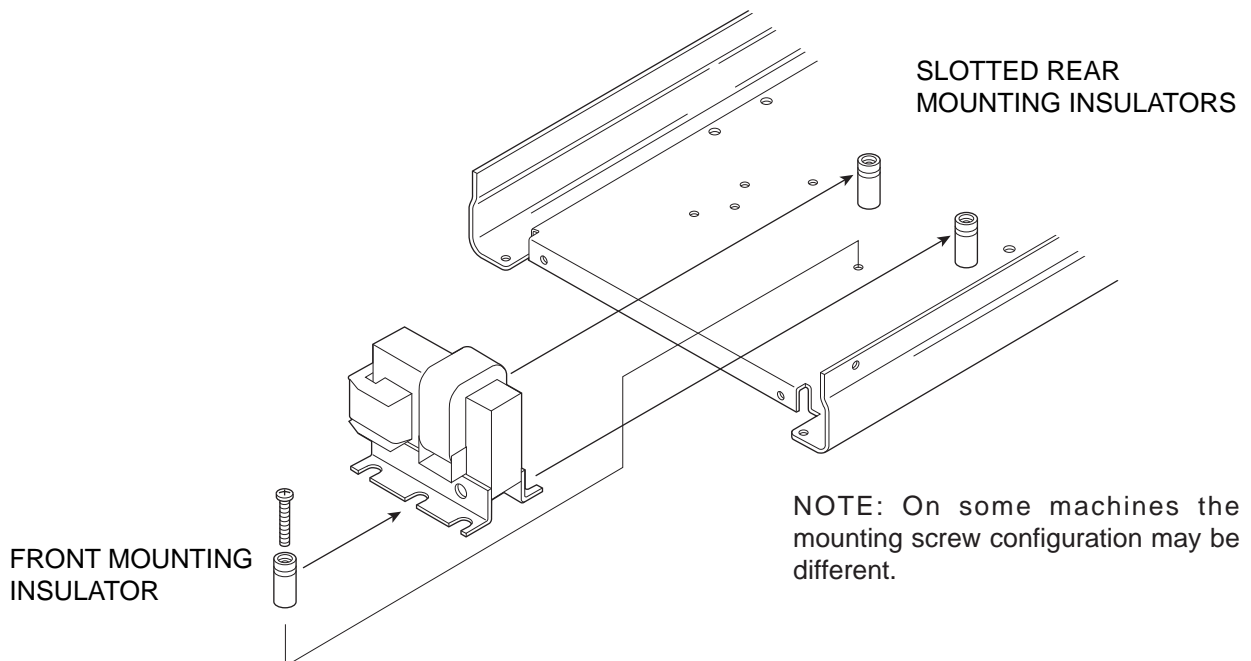

FIGURE F.12 HIGH VOLTAGE TRANSFORMER MOUNTING INSULATORS
1. Carefully position the new high voltage transformer in place in the two rear mounting insulators. See Figure F.12.